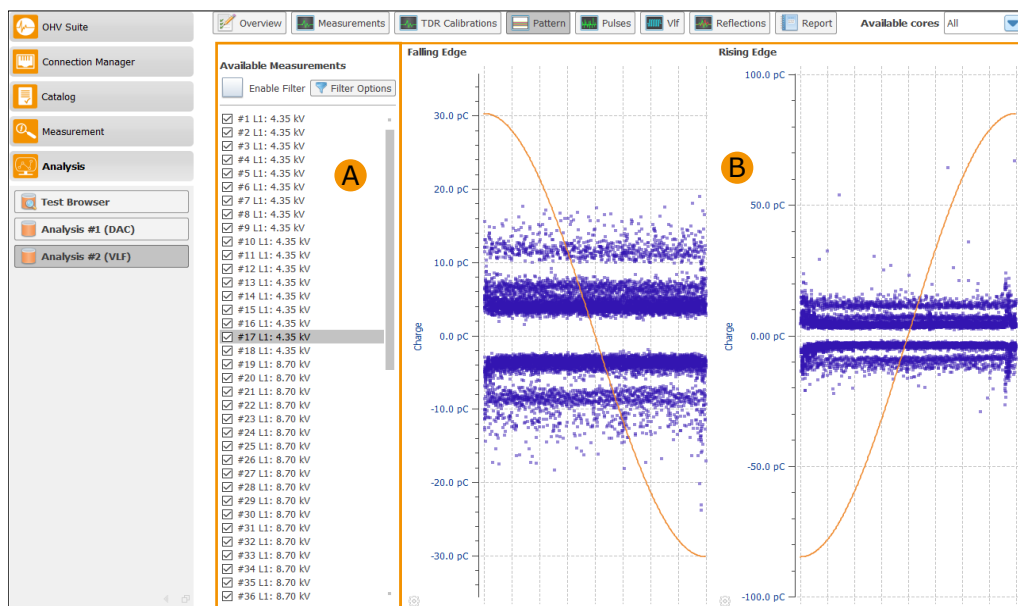

Figure 8.12: Analysis Pattern (VLF test)
Figure 8.12 shows the pattern display for a VLF test. The (A) area also contains the selected shots, which are displayed inside diagrams. On the left side of area (B) the pattern diagram for the falling edge of the VLF measurement is displayed, on the right side of this area the diagram for the rising edge of the VLF measurement is shown. The complete displayed area of the pattern is used for the reflection search and therefore no area selection is necessary.